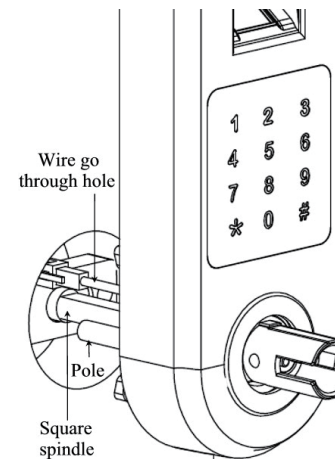

fig. 2
2. Drill holes on door (see fig. 2, and 3), dimension 8 mm hole is optional.
1.2 Install the outside chassis unit (see fig. 2). Slide wire through hole on door. Slide square spindle and poles smoothly through holes in latch. Take care to keep outside chassis vertically aligned during installation. Check latch setting and door dimensions if there is any problem.